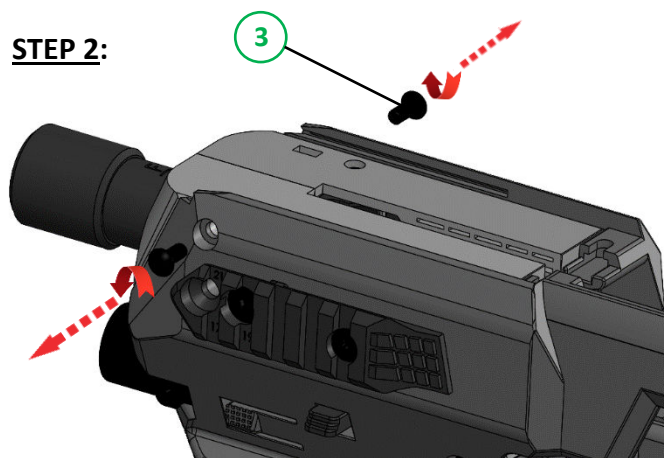
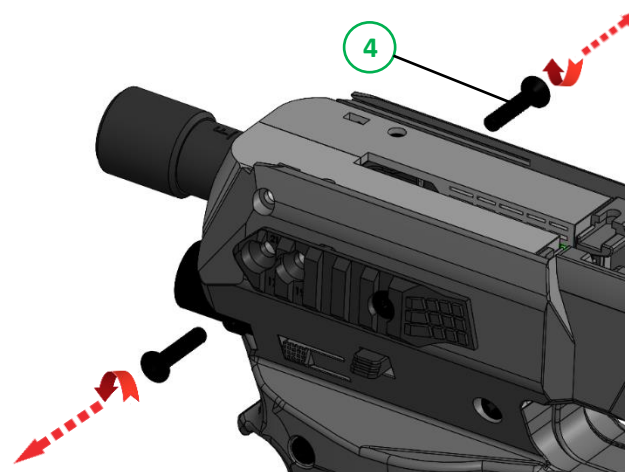

FIGURE 67
FIGURE 68
Unscrew the front aluminum tube housing screw (3) (x2) using a 2.5mm Allen wrench (FIGURE 67) and the front aluminum tube screw (4) (x2) using a 3mm Allen wrench (FIGURE 68).